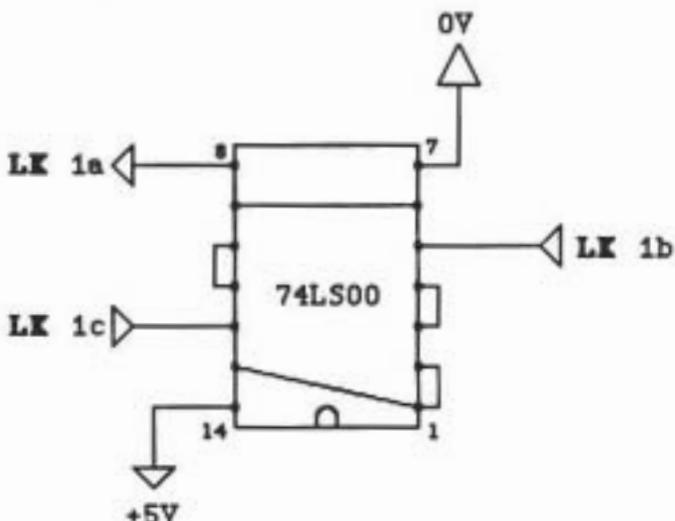

figure 3:Wiring diagram, viewed from component side.
- 5) Interconnect the pins of the 74LS00 as shown in figure 3, using some thin connecting wire, single core preferably.